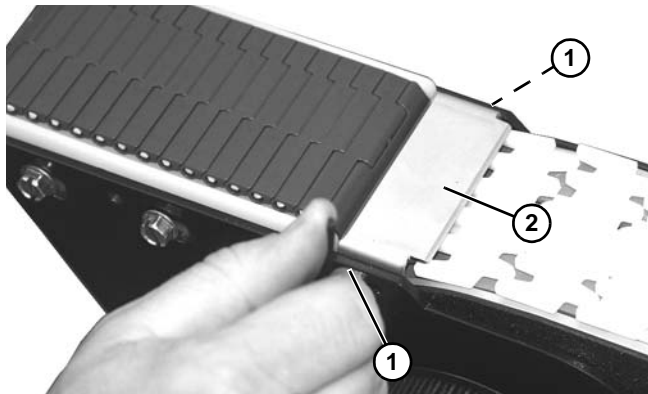

Figure 127
- Remove two socket head screws (Figure 127, item 1) and pinch guard (Figure 127, item 2).